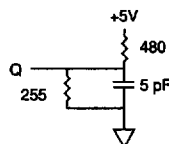

Fig. 2 OUTPUT LOAD EQUIVALENT
- tHZCE, tHZOE and tHZWE are specified with CL = 5 pF as in Fig. 2. Transition is measured ± 500mV typical from steady state voltage, allowing for actual tester RC time constant.